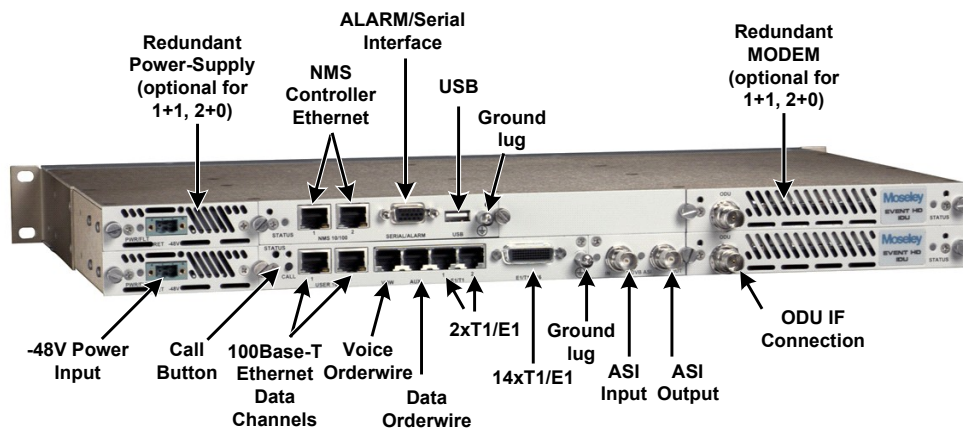

Figure 3-18. Software Defined IDU™-SB, 1+1 Protection, Rear Panel Connections
7. Connect the SDIDU™ to the laptop computer, using a Cat-5 Ethernet cable or connect the SDIDU™ to a computer network, using a Cat-5 Ethernet cable. Connect the Ethernet cable to **the NMS 1 or 2** connector on the SDIDU™ rear panel. Refer to Figure 3-18 for the SDIDU™ rear panel connections.